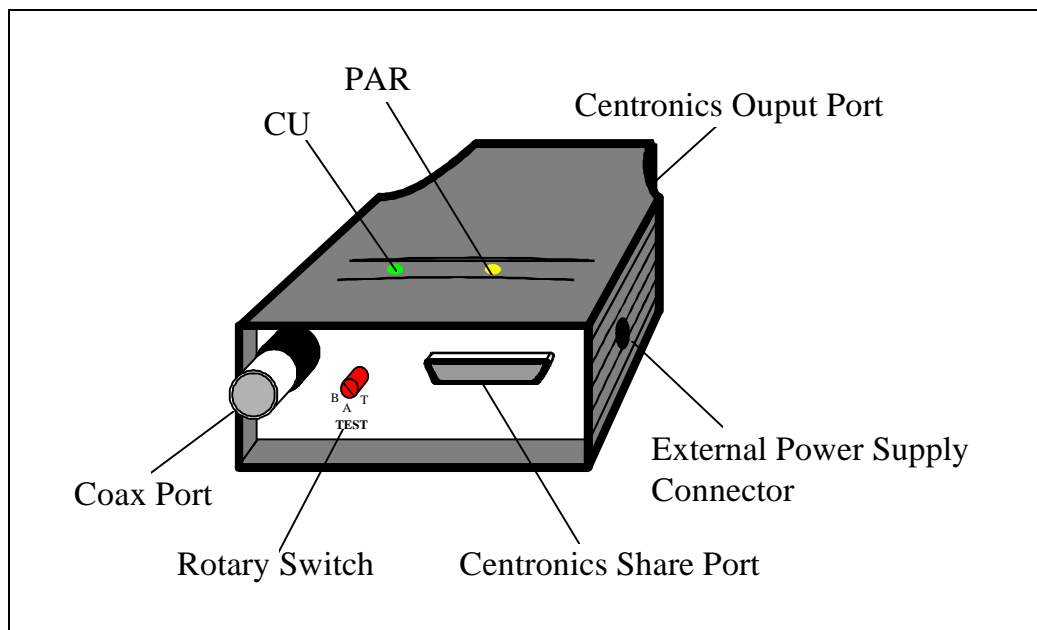

Fig 2-1 Xerox LS 3270 Front Panel
5. Power ON the printer. The CU and PAR LEDs of the *Xerox LS 3270* will turn on if the power is sufficient (for location of CU and PAR LEDs, see figure 2-1 in Section 2.1 *Knowing the Front Panel*).